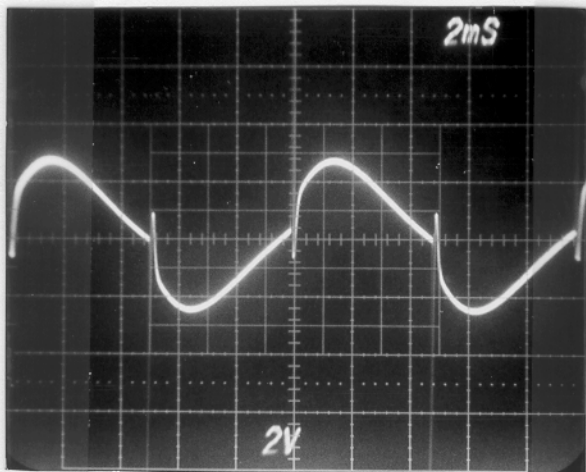

Fig. 11. Contour to 10.
- 2) Increase contour to 10- compare output to Fig. 11. Reset to 0.